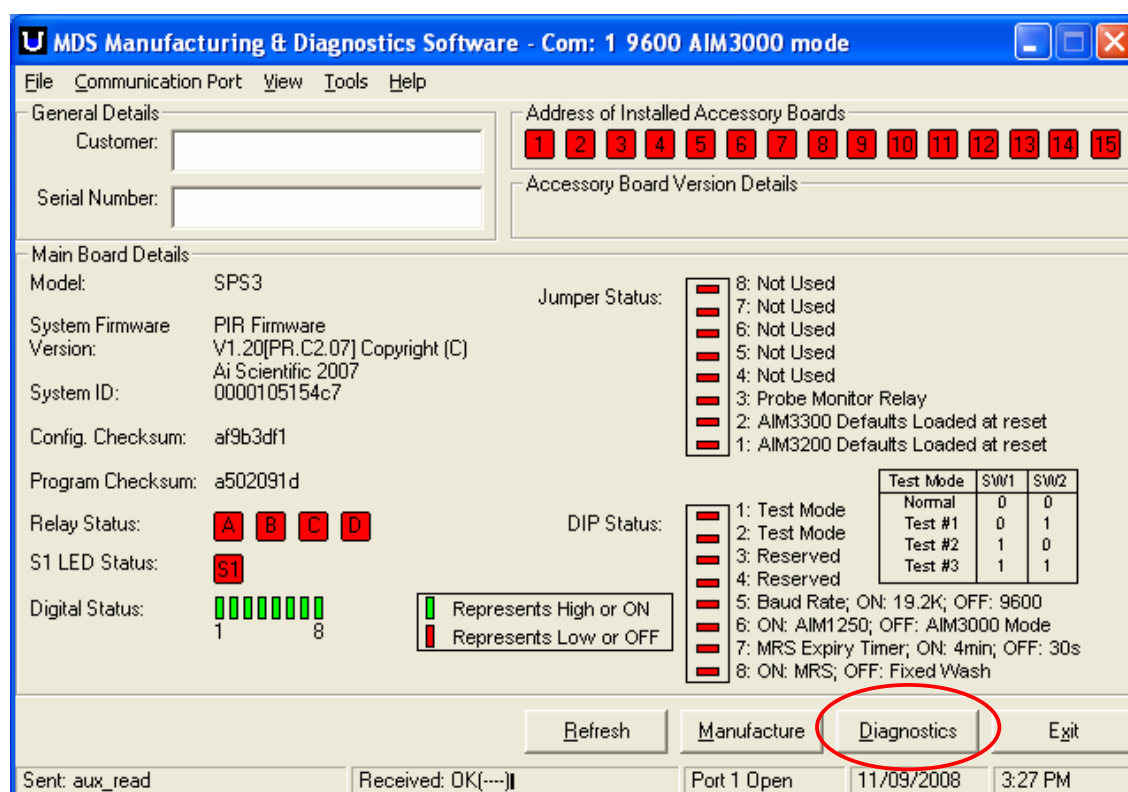

Figure 2: Varian MDS Software
4. Launch the Varian MDS program and select the *Diagnostics* button (Figure 2)